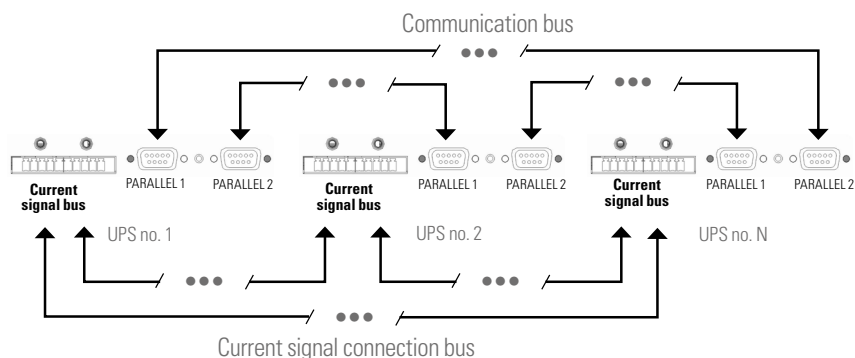

Fig. 67. Current signal and communication bus connection.
- **Current signal bus.** Use the cable with connectors at the ends to connect the current signal between consecutive devices, as shown in Fig. 67. Lastly, close the bus loop between the last and first devices.